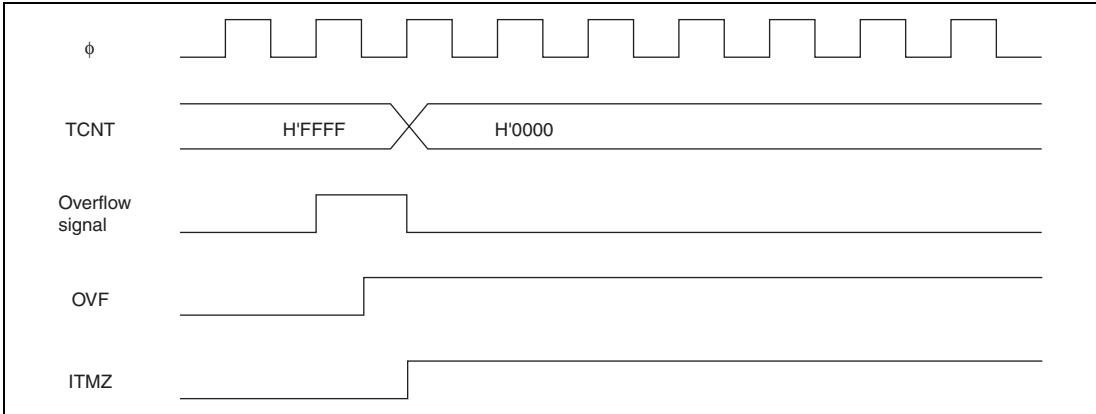

Figure 13.50 OVF Flag Set Timing
- 3. Overflow Flag (OVF) Set Timing: The overflow flag is set to 1 when the TCNT overflows. Figure 13.50 shows the timing.